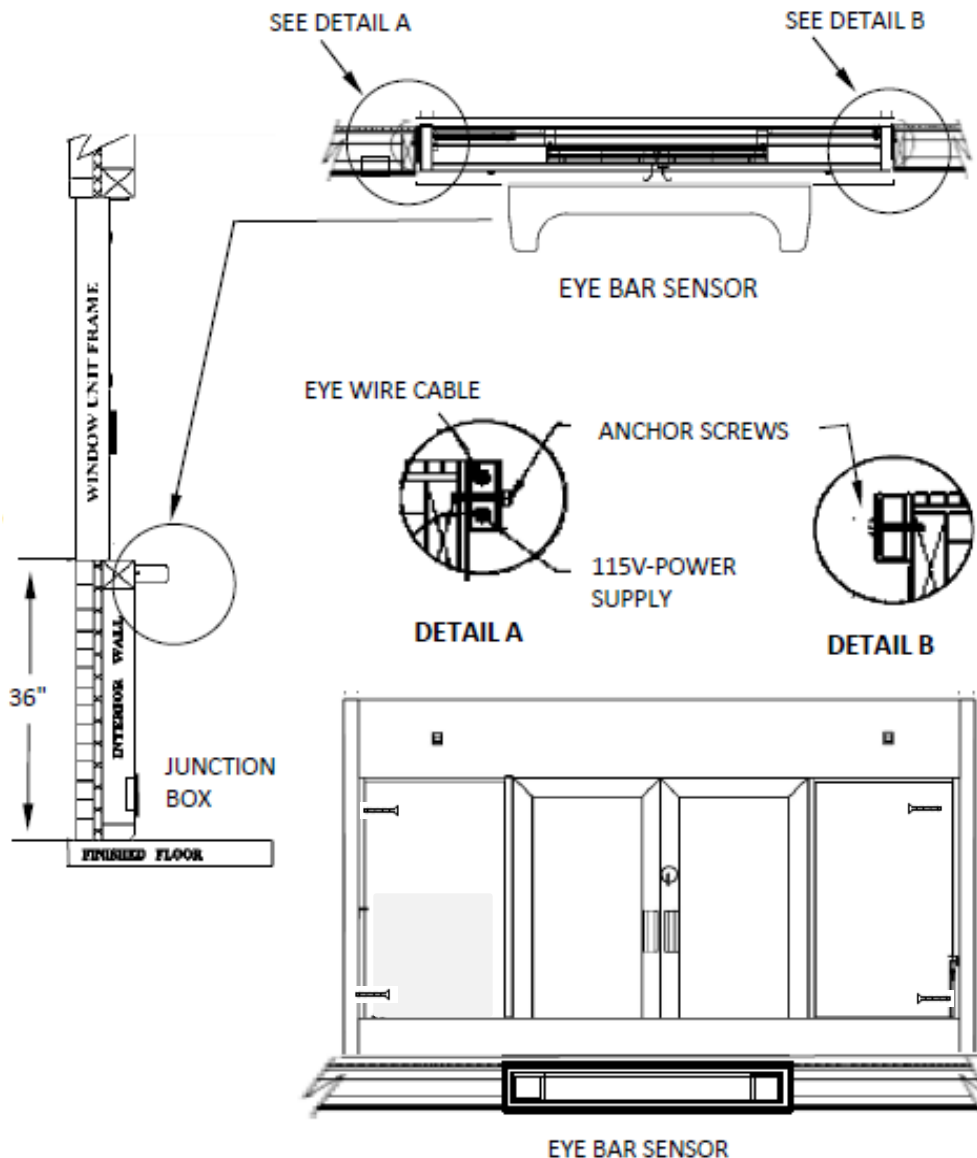

FIGURE 1
- 2) Anchor through each side jamb at two places approx. 5" at top and bottom of each jamb.(See Fig. 1)
Eye set to be mounted directly below the service opening. Bar to be mounted on the wall. (See Fig. 1)